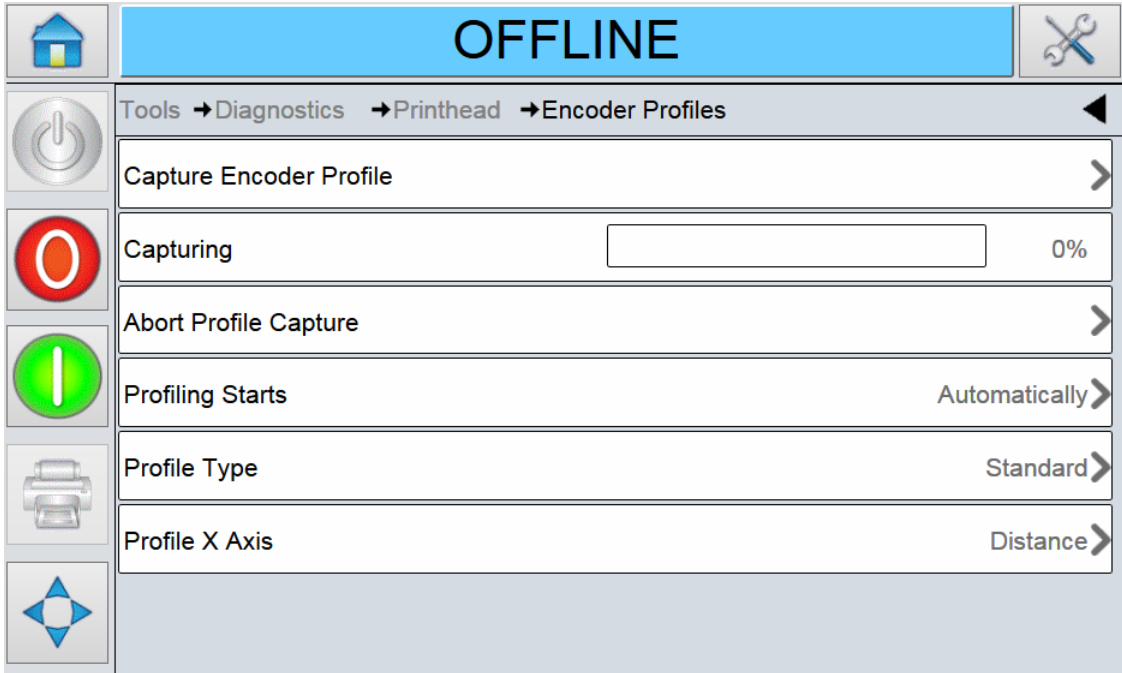

Figure 5-18: Capturing Encoder Profiles Screen
4. Touch and Capturing Encoder Profile screen appears (Figure 5-18).